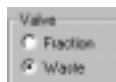

Figure 5-14 Valve Section of Control Panel
3. In the Valve section of the Control Panel (Figure 5-14), click one of the following option buttons: